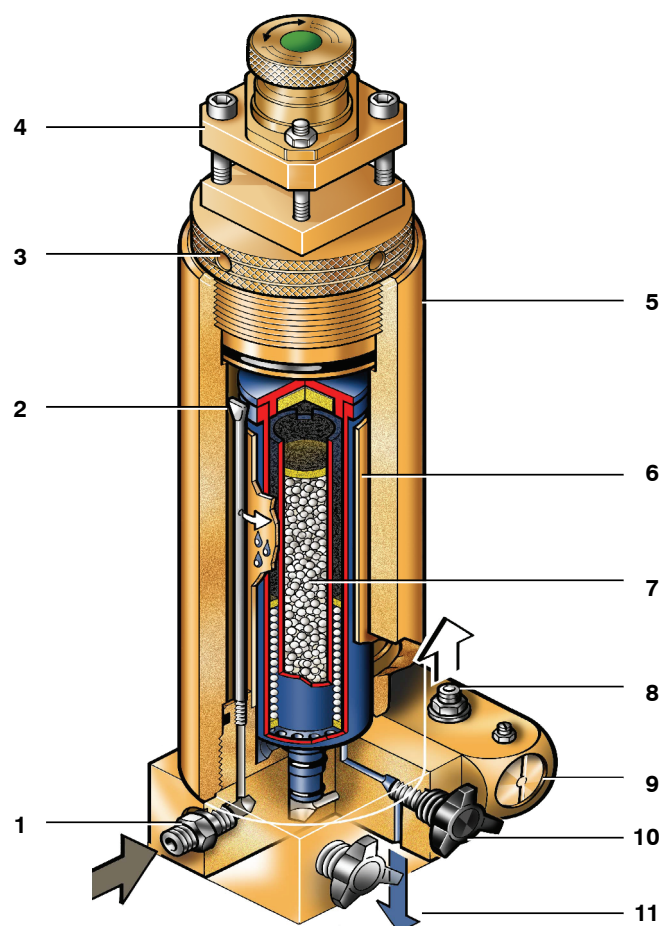

Fig. 1 Filter system P21
Air leaving final stage is cooled in the after-cooler to approx. 10 - 15 °C (18 - 27 °F) above ambient temperature and then enters filter system **P21** with **TRIPLEX**® longlife cartridge (Fig. 1). The filter assembly consists of separator and cartridge chamber. In the separator surrounding the cartridge chamber liquid oil and water particles are reliably separated from the compressed medium by a pipe nozzle.
- Unscrew screw joint (3, Fig. 1) on top of the filter.